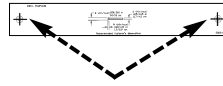

Fig. 11
- 1) Hold the mounting template against the wall and mark two holes for the mounting screws—see **Figure 11**.